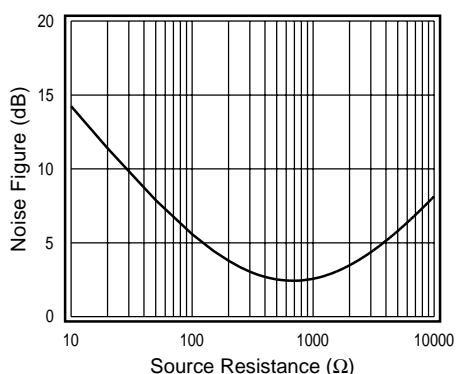

Figure 7. Noise Figure Plot
In RF applications, noise is frequently specified as Noise Figure (NF). Figure 7 plots NF for the CLC449 at a gain of 10, with a feedback resistor  $R_f$  of 100 $\Omega$ , and with no input matching resistor. The minimum Noise Figure (2.5dB) for these conditions occurs when the source resistance equals 700 $\Omega$ .